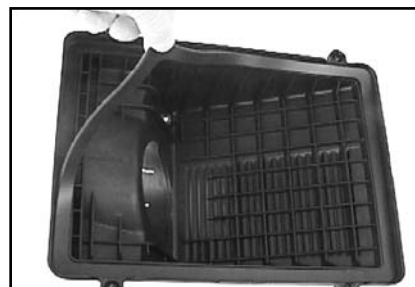

Fig. 2
4. Install the self-adhesive gasket to the air box lid making sure the gasket is seated and centered in the groove on the airbox lid. (See Fig 2)